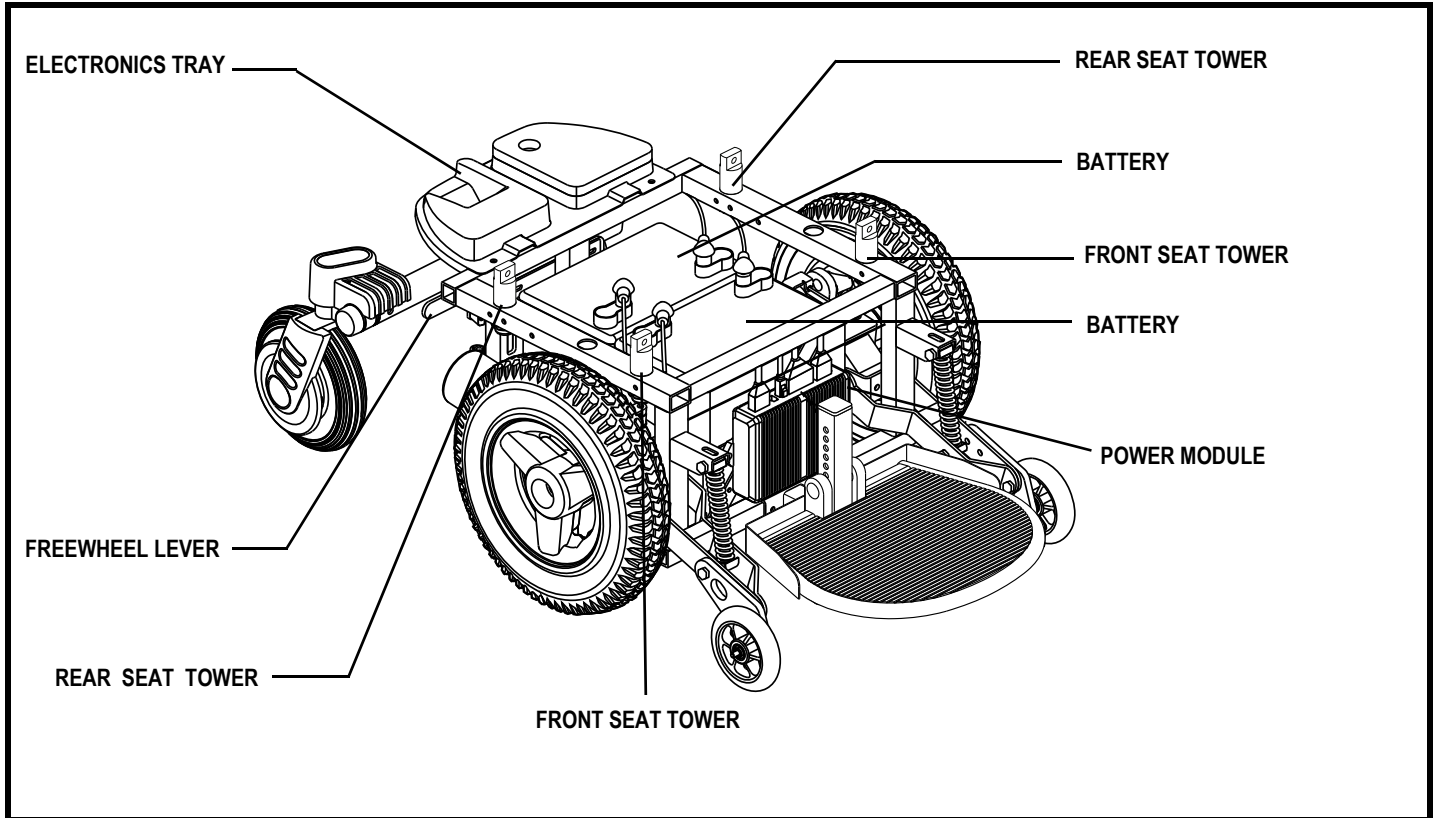

Figure 6. The Quantum Jazzy 1420 Power Base (Shroud Removed)
The electronics tray is located on the back of the power base. See figures 6 and 7.
7. Plug the controller connector into the electronics tray. See figure 6.